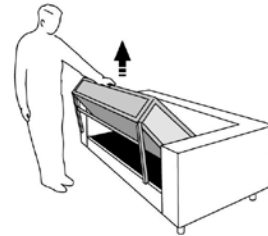

Fig. 1
- Raise the bedspring by gripping the central handle and pulling outwards, resting the support bar on the floor. **Fig. 1**